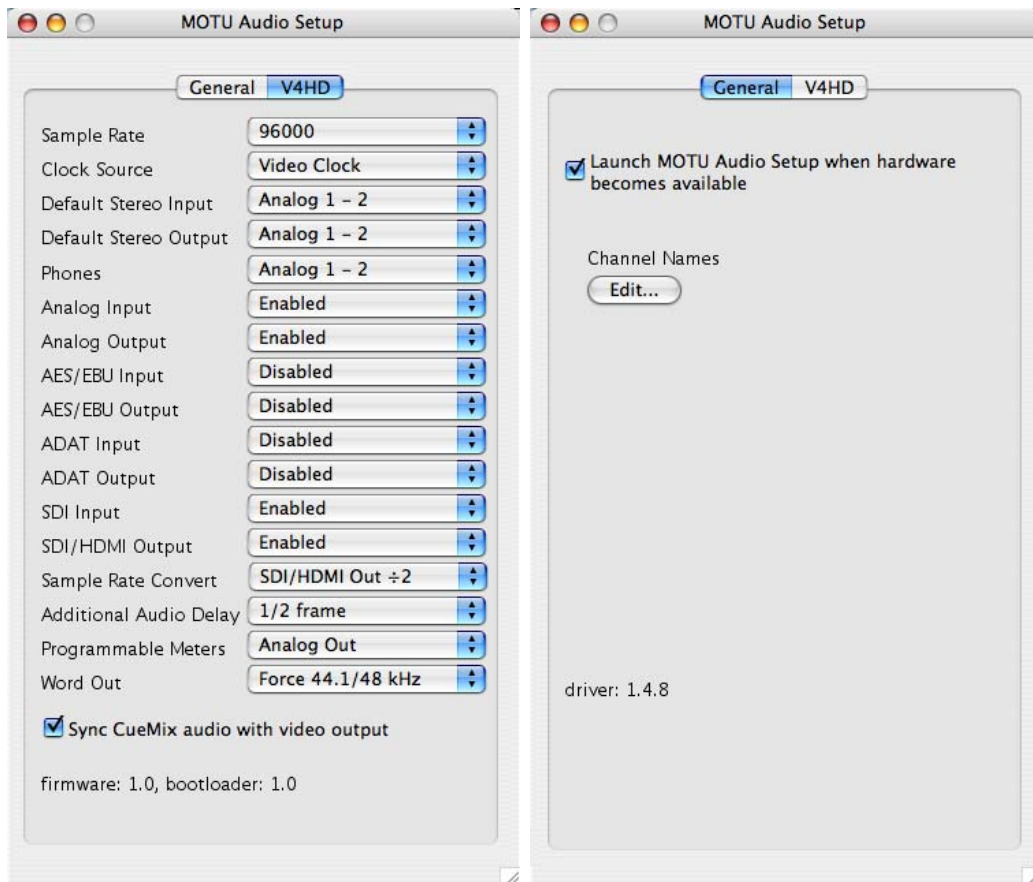

Figure 8-1: MOTU Audio Setup gives you access to all of the audio settings in the V4HD hardware.
You can verify the V4HD's audio settings using MOTU Audio Setup (Figure 8-1 on page 72).
- In MOTU Audio Setup (Figure 8-1 on page 72), choose a lower sample rate (such as 44.1 or 48 kHz).
- In MOTU Audio Setup (Figure 8-1 on page 72), disable audio banks that you are not using.
The V4HD tab (Figure 8-1) provides settings that apply to a specific V4HD interface. If you have MOTU audio interfaces connected to your computer in addition to the V4HD, you'll see a separate tab for each interface.
The General tab (Figure 8-1) provides settings that apply globally to all connected MOTU interfaces.
If the *ADAT Optical* setting does not appear in the menu, it means that the V4HD's optical input is currently disabled. Choose *Enabled* from the ADAT input menu (Figure 8-1 on page 72).
If the *AES/EBU* settings do not appear in the menu, it means that the V4HD's AES/EBU input bank is currently disabled. Choose *Enabled* from the AES/EBU input menu (Figure 8-1 on page 72).
The *Default Stereo Input* and *Default Stereo Output* settings in MOTU Audio Setup (Figure 8-1 on page 72) let you specify the stereo input and output on the V4HD to be used when it is chosen as the audio I/O device in the system preferences.
The *Phones* setting (Figure 8-1) lets you choose what you will hear from the headphone jack. For example, choose *Analog 1-2* if you'd like the headphone output to match the analog outputs 1 and 2.
The *Analog Input/Output* menus (Figure 8-1) let you enable or disable the 8-channel analog bank. Enable a bank to make it available to Final Cut Pro or the V4HD's CueMix monitor mixer for audio input or output. Disable it if you are not using it to conserve FireWire bus bandwidth for video and other data. Note that input and output can be enabled or disabled independently.
The *AES/EBU Input/Output* menus (Figure 8-1) let you enable or disable the 8-channel bank of AES/EBU digital audio I/O, as described above for the analog banks.
The *ADAT Input/Output* menus (Figure 8-1) let you enable or disable the 8-channel bank of ADAT optical digital audio I/O, as described above for the analog banks.
These two menus (Figure 8-1) let you enable or disable the 8-channel bank of embedded digital audio I/O, as described above for the analog banks.
The *Sample Rate Convert* menu (Figure 8-1) lets you control the V4HD's sample rate conversion. Sample rate conversion can be applied to any 8-channel digital input or output bank, as
The *Additional Audio Delay* option (Figure 8-1) lets you add a certain amount of delay, specified in fractions of a video frame, to the V4HD's audio output.
For example, let's say you are viewing Final Cut Pro output on a plasma monitor connected to one of the video outputs on the V4HD. This plasma monitor has an inherent one-frame delay (from the time it receives a frame to the time it displays it). In addition, you are listening to Final Cut Pro's audio output — in 5.1 surround — via studio monitors connected to the V4HD's analog audio outputs. Even though audio and video depart the V4HD outputs completely in sync with one another, the image on the plasma will be running one frame behind the audio you hear from the surround monitors. Use the *Additional Audio Delay* option (Figure 8-1) to delay the V4HD's audio output by one frame to match the image on the plasma.
The *Sync CueMix audio with video output* option (shown in Figure 8-1 and described below) ensures that audio and video remain perfectly in sync with each other when they pass through the V4HD from its inputs to its outputs. However, you may still need to compensate for the inherent video signal delay in external devices connected to the V4HD. Therefore, when the *Sync CueMix audio with video output* option is checked, the *Additional Audio Delay* option can be applied for exactly that purpose.
connected to the V4HD's analog audio outputs. Even though audio and video depart the V4HD outputs completely in sync with one another, the image on the plasma will be running one frame behind the audio you hear from the studio monitors. Use the Additional Audio Delay option (Figure 8-1) to delay the V4HD's audio output by one frame to match the image on the plasma.
The *Word Out* menu (Figure 8-1) appears when the V4HD is operating at a 2x sample rate (88.2 or 96kHz) or 4x sample rate (176.4 or 192kHz). This menu lets you set the word clock output either to match the current sample rate (*System Clock*) or force it to the corresponding 1x rate (either 44.1 or 48kHz). For example, if the V4HD were operating at 176.4kHz, choosing the *Force 44.1/48kHz* option would produce word clock output at 44.1kHz.
When the V4HD passes video and audio signal from its inputs to its outputs, there is a small delay in the video signal, while it is being processed and converted. Audio has almost no delay at all (less than a millisecond), which means that it will play a little bit ahead of the video signal. When you check the *Sync CueMix audio with video output* option (Figure 8-1), the V4HD precisely calculates the difference in the two signals (down to one audio sample) and delays the audio by exactly the correct number of samples to bring the audio signal back in sync with video when the two signals leave the V4HD outputs.